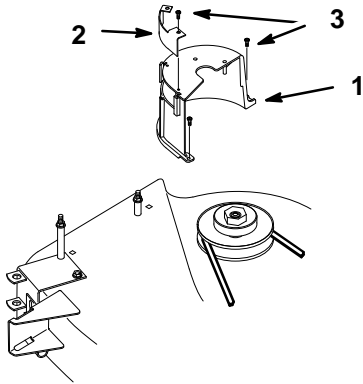

**Figure 30**
1. Remove the mower belt cover from the right side pulley (Fig. 30). Save mounting hardware.
2. Unhook blower belt from blower pulley and slide the belt out of opening in belt cover (Fig. 30).